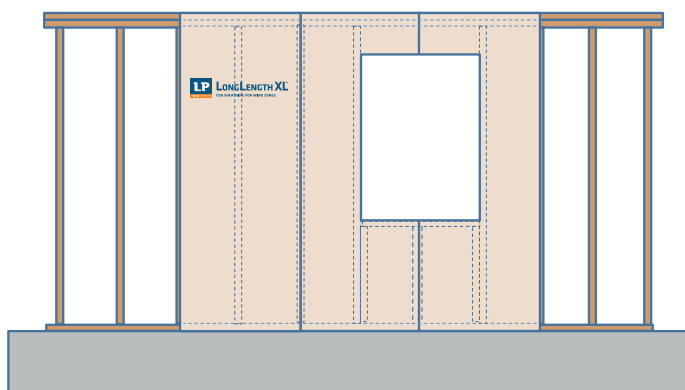

Figure 7: Proper Cut Around Windows and Doors
- For added wall performance, cut full panels around window and door openings instead of using small pieces to sheath the perimeter (see Figure 7). Builders must comply with local building codes regarding the use of anchors and ties at window and door openings.